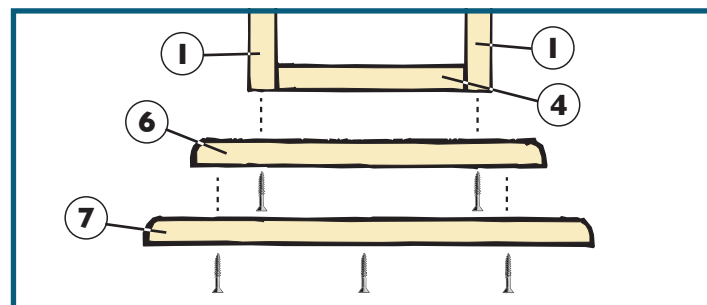

Fig. 2
2. Construct the main "box" using Side Panels (1), Back Panel (2), Top Panel (3) and Base Panel (4) as indicated in the exploded view of this plan. Join the corner with glue and nails or plugged screws, dowels or biscuits. Apply Top Molding (5), Base Molding (6) and Base (7). **Fig. 2**.
4. Apply CD or DVD strips flush (8) with front edge.